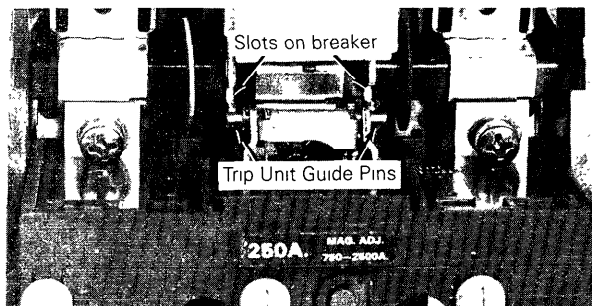

Figure 2. Attaching the trip unit to the breaker frame.
2. Insert a #3/8-16 Philips-head screw with lock washer and plain washer (furnished with the breaker frame) into the left and right line-conductor holes of the trip unit, as indicated in Figure 2. Mounting hardware for the center line-conductor is factory assembled.
3. Place the trip unit in the breaker frame, engaging guide pins with the slots, as illustrated in Figure 2. Start each line-conductor screw. Flex the trip unit as necessary to align the load lug terminal holes. (Insert a screwdriver into the holes and gently force alignment.) Tighten the center screw, then tighten the other two line-conductor screws to 100 inch-pounds torque.
3. Lift the trip unit out of the breaker frame, disengaging the guide pins from the slots, as illustrated in Figure 2.